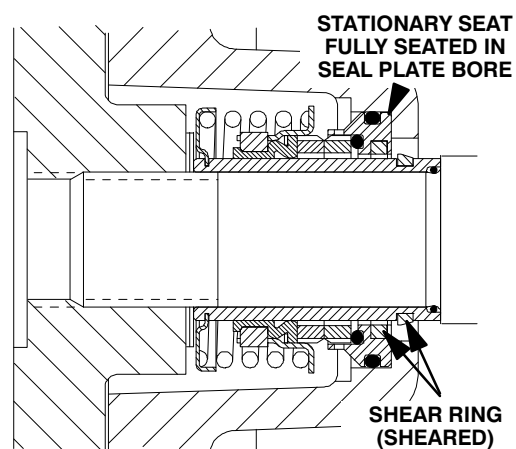

**Figure 6. Seal Partially Installed**
Clean and inspect the impeller as described in **Impeller Installation and Adjustment**. Install the full set of impeller shims (2) provided with the seal, and screw the impeller onto the shaft until it is seated against the seal (see Figure 6).